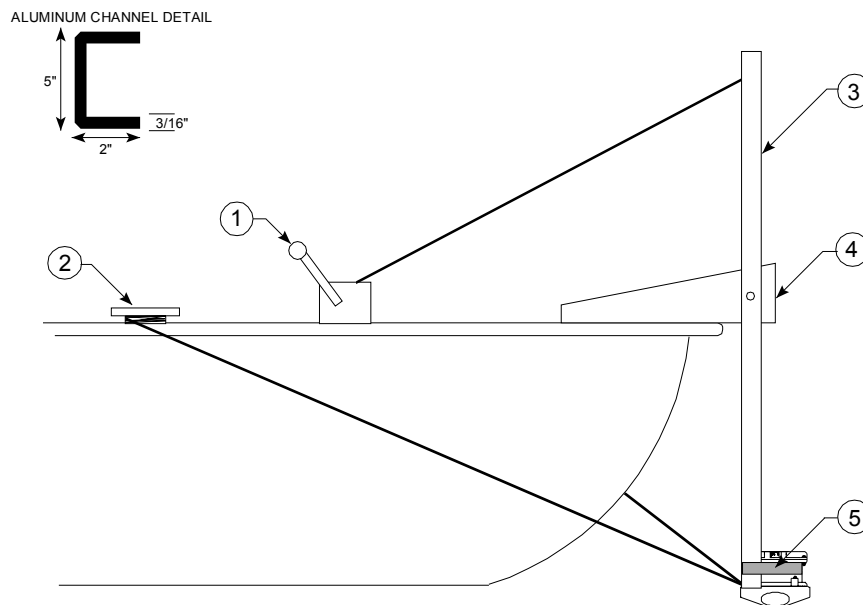

Figure 14. Mounting an ADCP to a Platform
- Mount to the platform (see Figure 14).